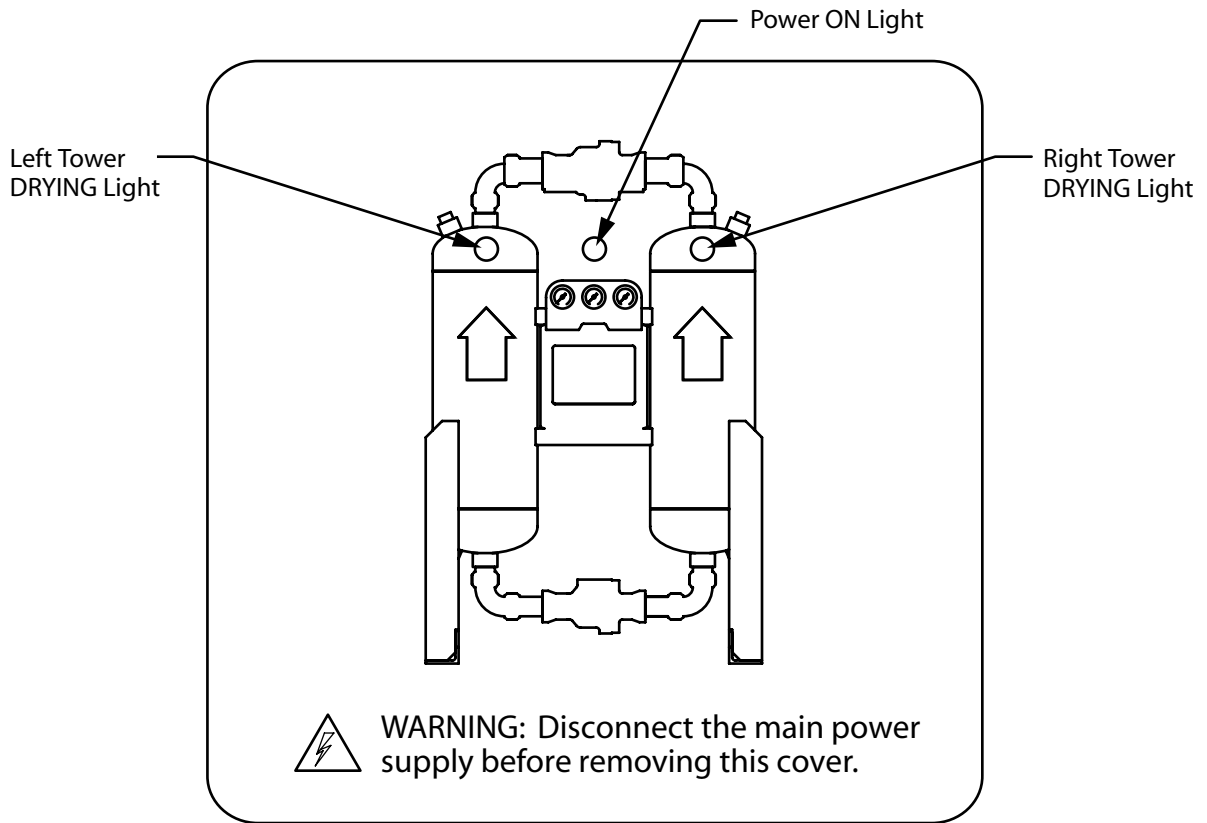

Figure 6-1
- Figure 6-1, Front Panel Overlay – Timer Controller